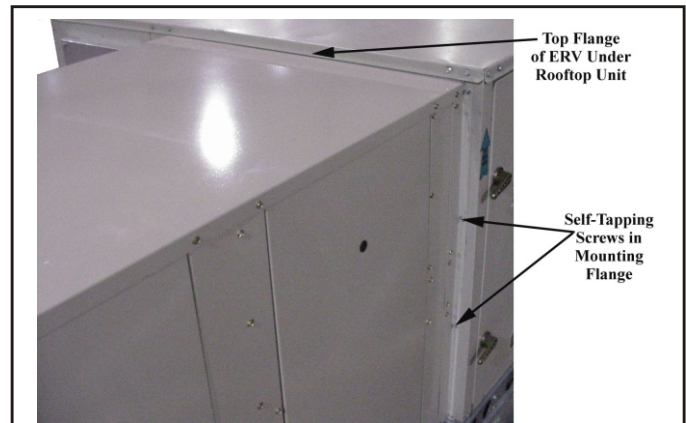

Figure 12
- 3- Tuck the top flange of the ERS under the rooftop unit top panel. Raise ERS until bottom clears the  $\frac{1}{2}$ " front flange of the ERS support rail. Slide the ERS so that it is tight against the unit side. Secure with the existing rooftop unit screws. **See Figure 12**.
- 5- Use provided 10-16 x  $\frac{1}{2}$ " self-tapping screws to secure the side mounting flanges of the ERS to the rooftop unit. **See Figure 12**.